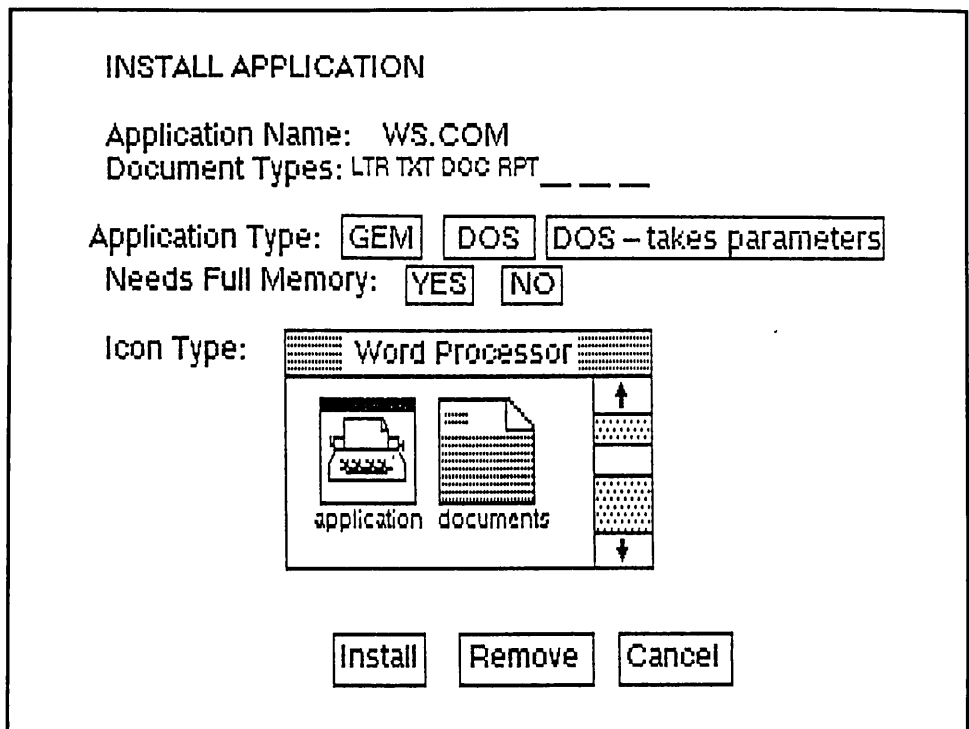

Fig. 1-20. Completing the INSTALL APPLICATION dialog is all that's necessary for installing WordStar in the GEM environment.
- ☐ Click on the Install button (see Fig. 1-20).